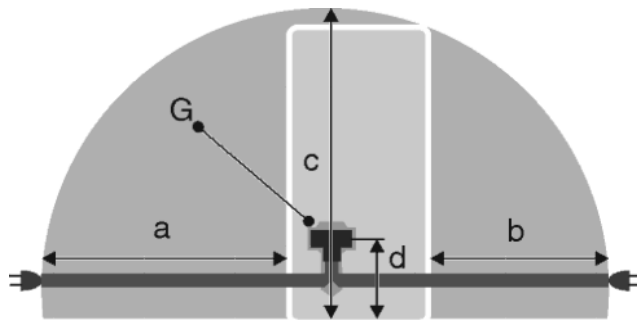

Fig. 20
- The socket is outside the back of the appliance area in the specified area *Fig. 20 (a, b, c)*.
- Insert the appliance plug *Fig. 20 (G)* into the back of the appliance. Ensure that it clicks into place.